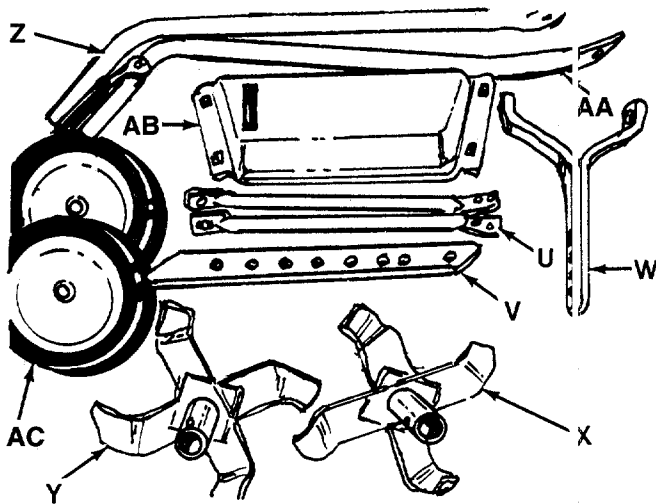
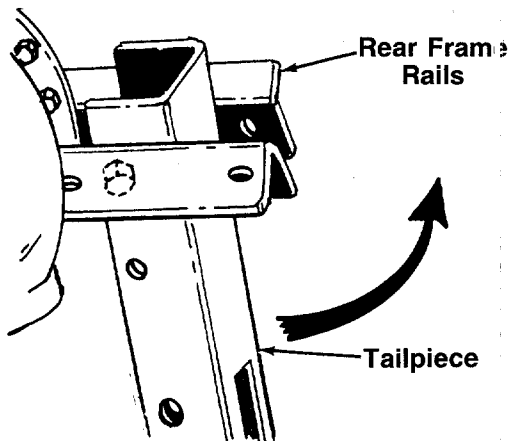

FIGURE 2.
FIGURE 3.
- K (1) Clevis Pin 3/8" x 2 1/2" Long
- L (2) Shoulder Bolts (Axles)
- M (2) Belleville Washers
- N (2) Lock Washers 1/2" I.D.
- O (2) Hex Nuts 1/2-20 Thread
- P (2) Grips (Not Shown)
- Q (2) Hex Bolt 1/4-20 x 5/8" Long
- R (2) Lock Washers 1/4" I.D.
- S (2) Hex Nuts 1/4-20 Thread
- T (1) Phillips Head Self-Tapping Screw 1/2" Long (Not Shown)
**Loose Parts in Carton: (See Figure 2)**
- U (2) Handle Braces (Right & Left Hand)
- V (1) Depth Bar
- W (1) Wheel Yoke Assembly
- X (1) Right Hand Tine Assembly
- Y (1) Left Hand Tine Assembly
- Z (1) Right Hand Handle
- AA (1) Left Hand Handle
- AB (1) Handle Panel
- AC (2) Wheels
- AD (1) Tine Shield Extension (Not Shown)
3. The tailpiece is partially assembled. Pivot the tailpiece upward until the holes line up with the rear frame rails. See figure 3.